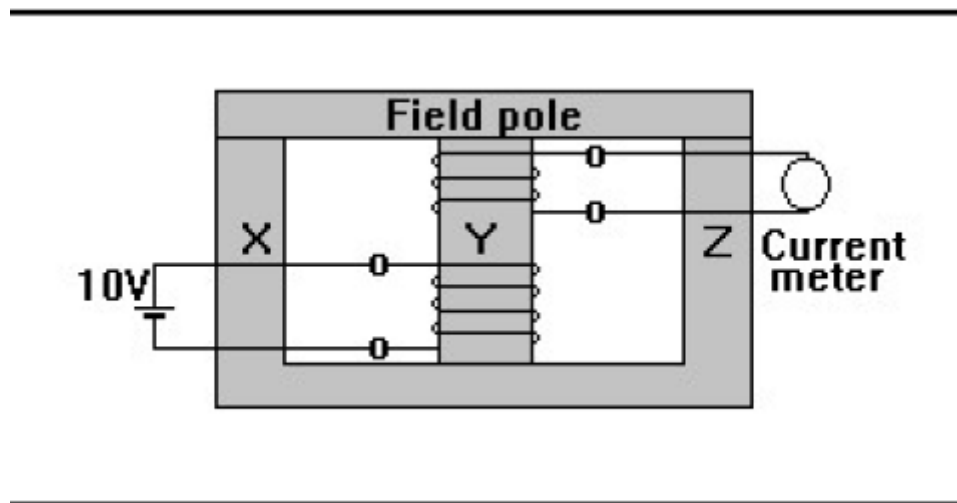

Figure 1.3
3) The connection shown in the **figure 1.3** below was connected, and the power supply was set at 10 Volts, after that the DMM was used to close the filed pole to attach the ends X, Y and Z.